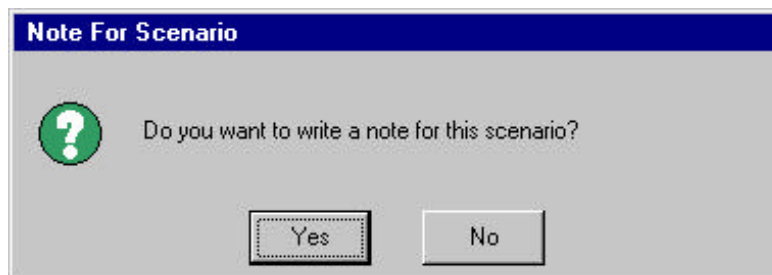

Figure 13.40
14. A prompt box will be displayed during the save (Figure 13.40).